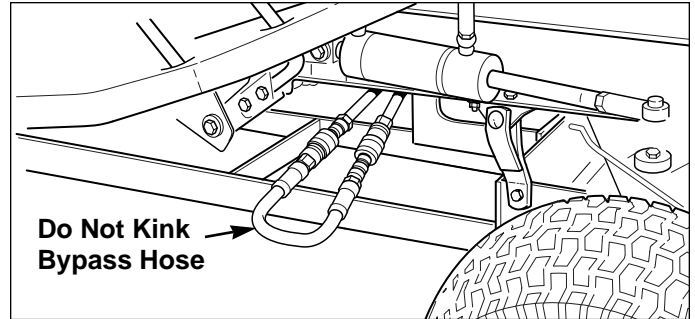

Figure 41. Remove Bypass Hose
5. Remove the bypass hose (Figure 41) from the cross-over tubes.